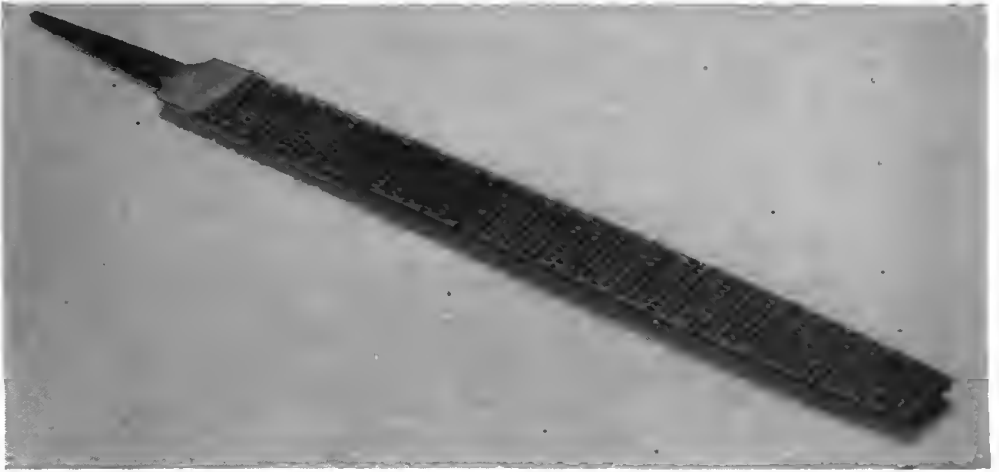

Figure 108. Rasp.
j. **RASP.** A rasp is a very coarse file with the individually cut teeth. (See fig. 108.) It is used on wood as a file is used on metal. A file is sometimes used for fine work on irregularly shaped wood parts.